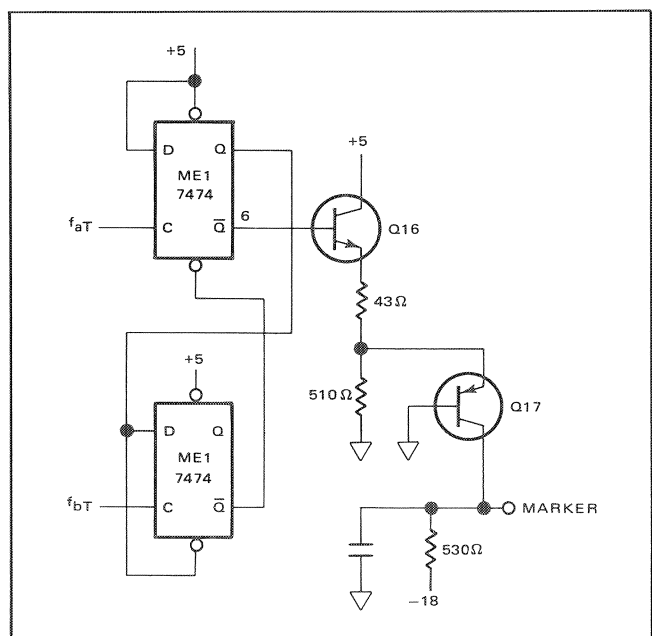

Figure 4.23 - Marker Logic
4.118 MARKER LOGIC (figure 4.23).